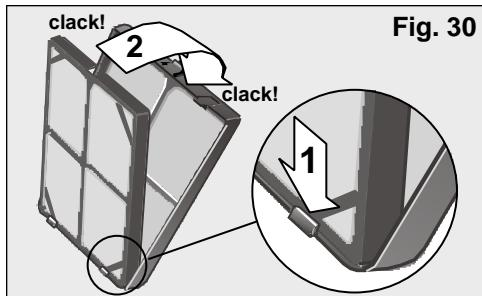

Fig. 30
- Insert the double active filter + positioner in the basic filter as shown on Fig. 30, remembering that it must be housed on the lower studs first.
The front flap can also be removed in order to clean the appliance or change the filters more easily. To do this, open the flap up to the safety stop (the flap opens to a slight angle, Fig. 30) and pull outwards firmly. In order to refit it, line the lower studs on the flap up with the holes on the casing until the studs meet the tabs on the casing.